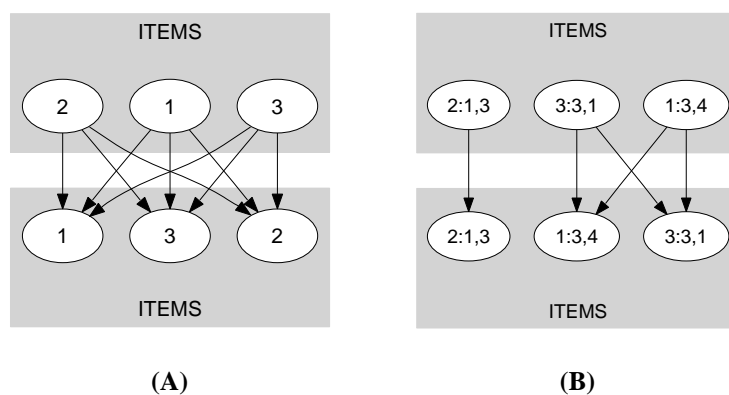

Figure 5.138: Initial and final graph of the *bin_packing* constraint
Parts (A) and (B) of Figure 5.138 respectively show the initial and final graph associated with the **Example** slot. Each connected component of the final graph corresponds to the items that are all assigned to the same bin.